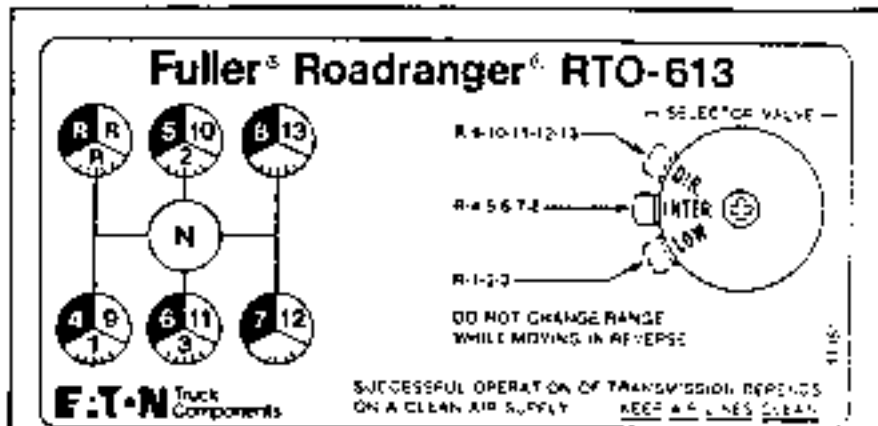
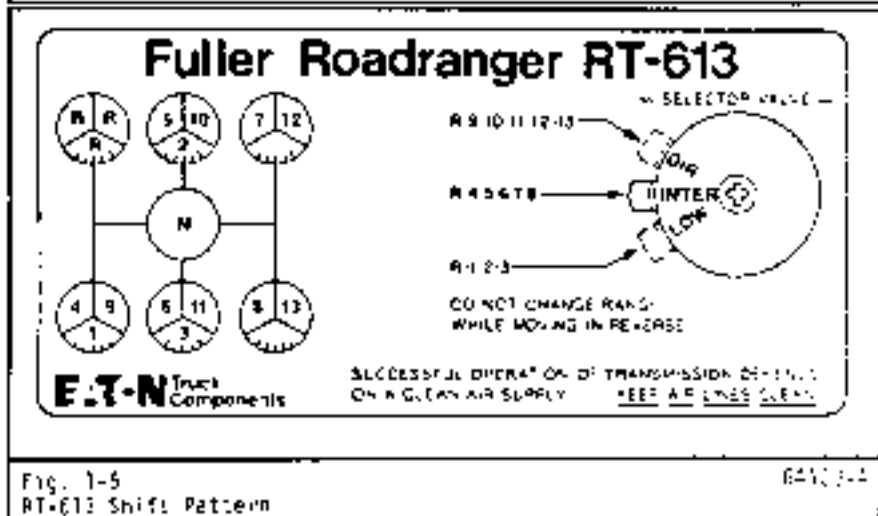

Fig. 1-4 RTO-613 Shift Pattern
Fig. 1-5 RT-613 Shift Pattern
- (c) Disengage clutch, press down on the TCB control button on the side of gear shift lever, and shift transmission into the first gear position. Refer to Fig. 1-4 or Fig. 1-5. Release the TCB button.
- (c) Disengage clutch, press the clutch pedal to within one inch (25mm) of the floor-board to engage the clutch brake. Shift into the first gear position. Refer to Fig. 1-4 or Fig. 1-5.